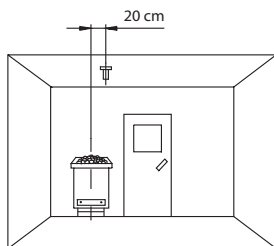

Fig. 7
1. Mount the oven sensor in cabins up to $2 \times 2 \text{ m}$ according to Fig. 7 and 8, in larger cabins according to Fig. 7 and 9.